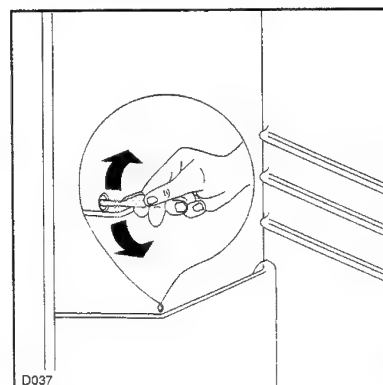

Fig. 20
The refrigerator compartment evaporator is automatically defrosted every time the compressor stops. The water drains out through a channel (Fig. 20) into a bowl located at the base of the back of the appliance, where it evaporates.
**It is important to periodically clean the defrost water drain hole in the middle of the refrigerator compartment channel (Fig. 20) to prevent the water overflowing and dripping onto the food inside.**